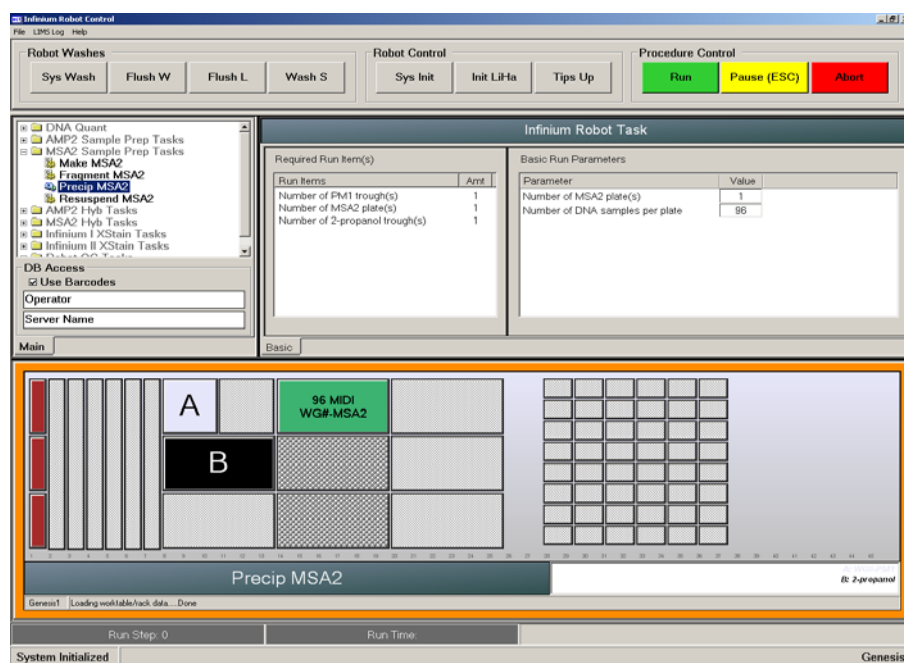

Figure 102 Precip MSA2 Screen
4. Remove the cap mat and place the MSA2 plate on the robot bed according to the bed map (Figure 102).
7. Remove the cap mat and place the MSA2 plate back on the robot bed according to the bed map (Figure 102).